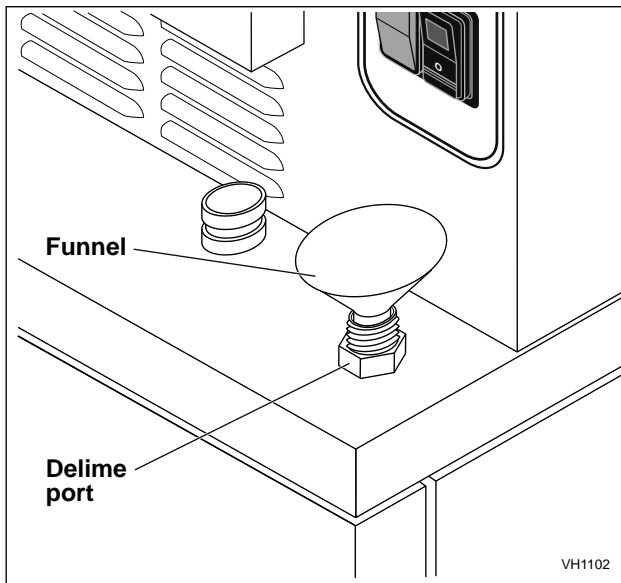

Figure 3. Deliming port location
4. Remove delime port cap located on the front ledge beneath the lower compartment and insert a funnel into the delime port (Figure 3).